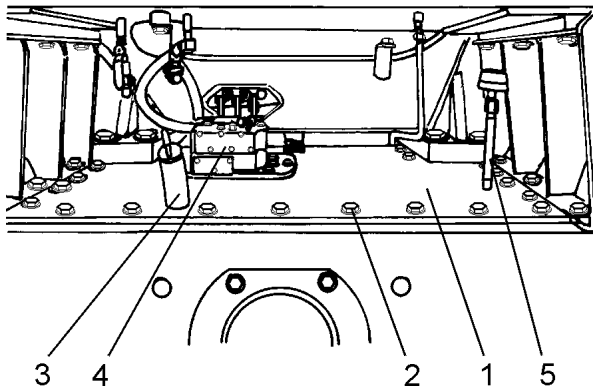

Fig. 7E.3. View on Main Frame Cover
10. Remove the bolt securing tube (1, Fig. 7E.5) to support bracket (2). Disconnect tube (1) from the steering drive and pull the tube free of main frame. Remove dipstick tube (3) with hardware from the rear surface of the main frame.
11. Remove the pinion access cover with O-ring from the sprocket drive cover. Remove snap ring (1, Fig. 7E.6) that secures shaft retainer (2) in the pinion gear. Thread a bolt 1/2"-13UNC-2B in retainer (2) and pull it out of the pinion gear.